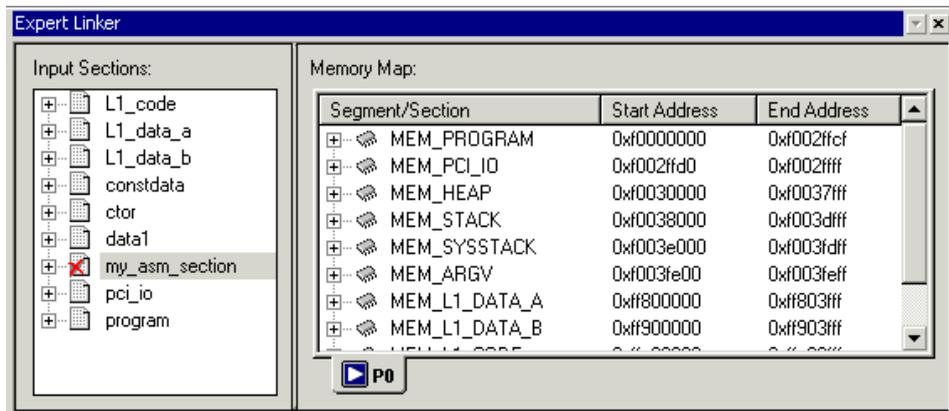

Figure 2-21. Expert Linker Window
- In the **Project** window, double-click in the `dot_prod_asm.ldf` file. The **Expert Linker** window (Figure 2-21) opens with a representation of your file.
The right pane contains a graphical representation of the memory segments that the Expert Linker defined when it created the `.LDF` file. Change the view mode by right-clicking in the right pane and choosing **View Mode**. Then choose **Memory Map Tree** to display the tree view shown in Figure 2-21.